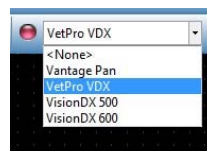

Figure 14: Selecting VetPro® VDX sensor in Progeny Imaging
- Select VetPro VDX as shown on Figure 14.